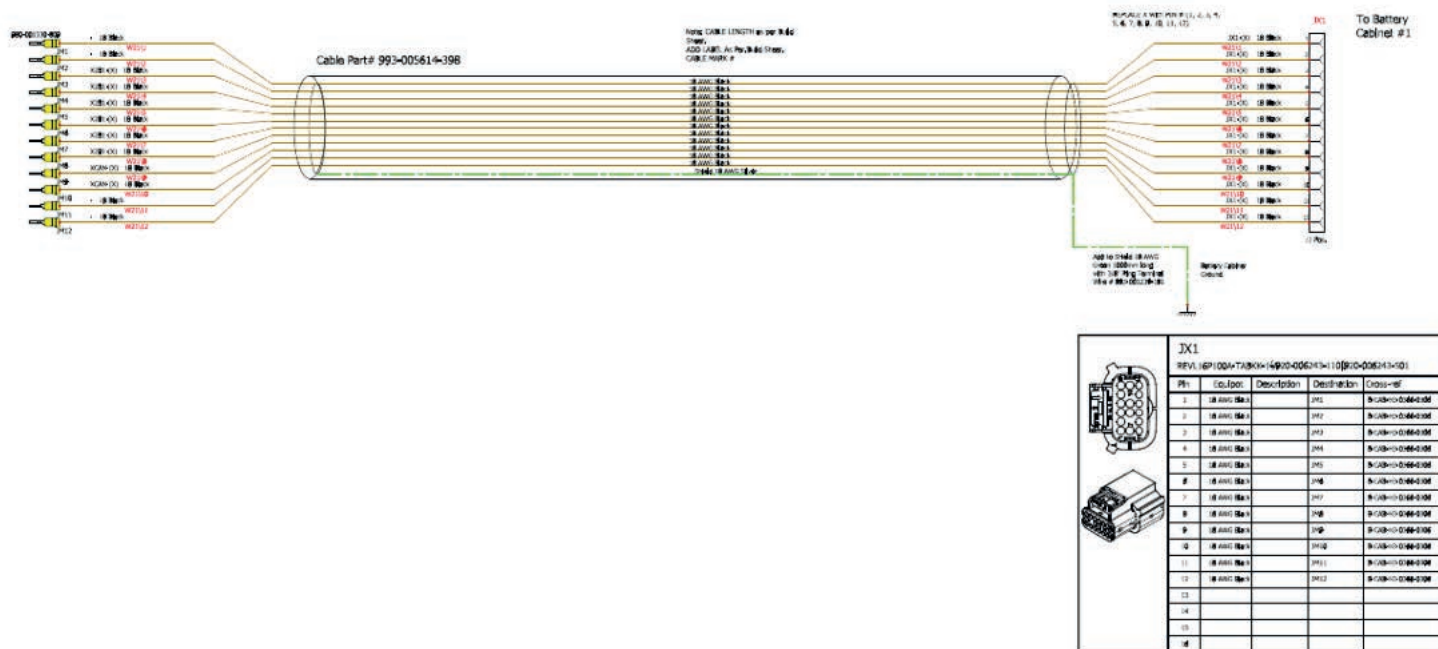
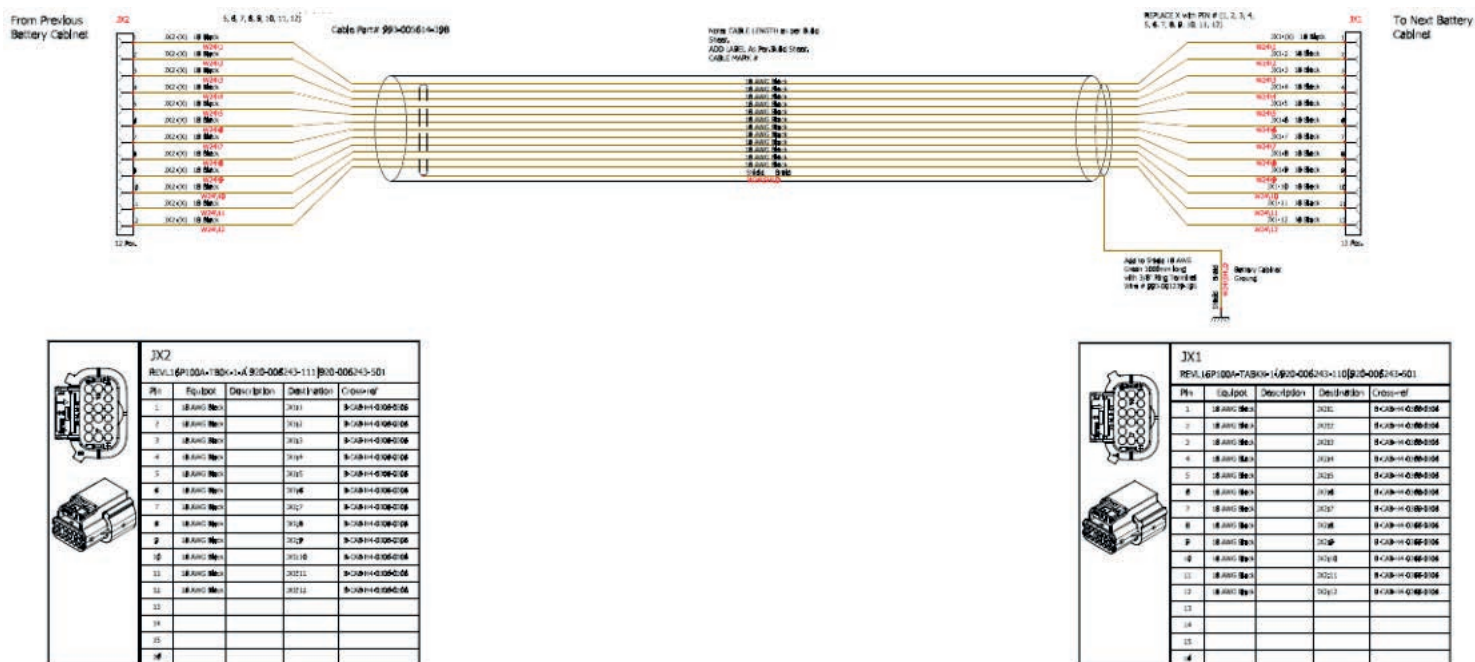
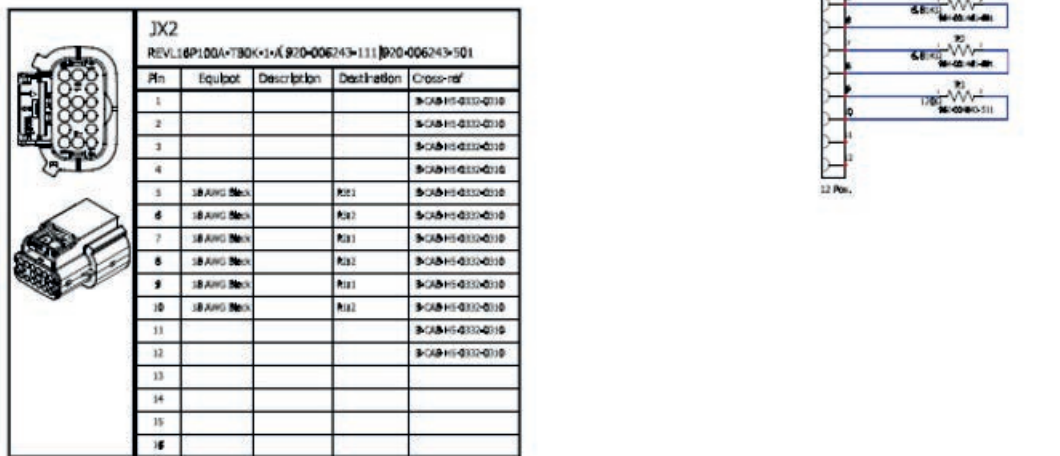
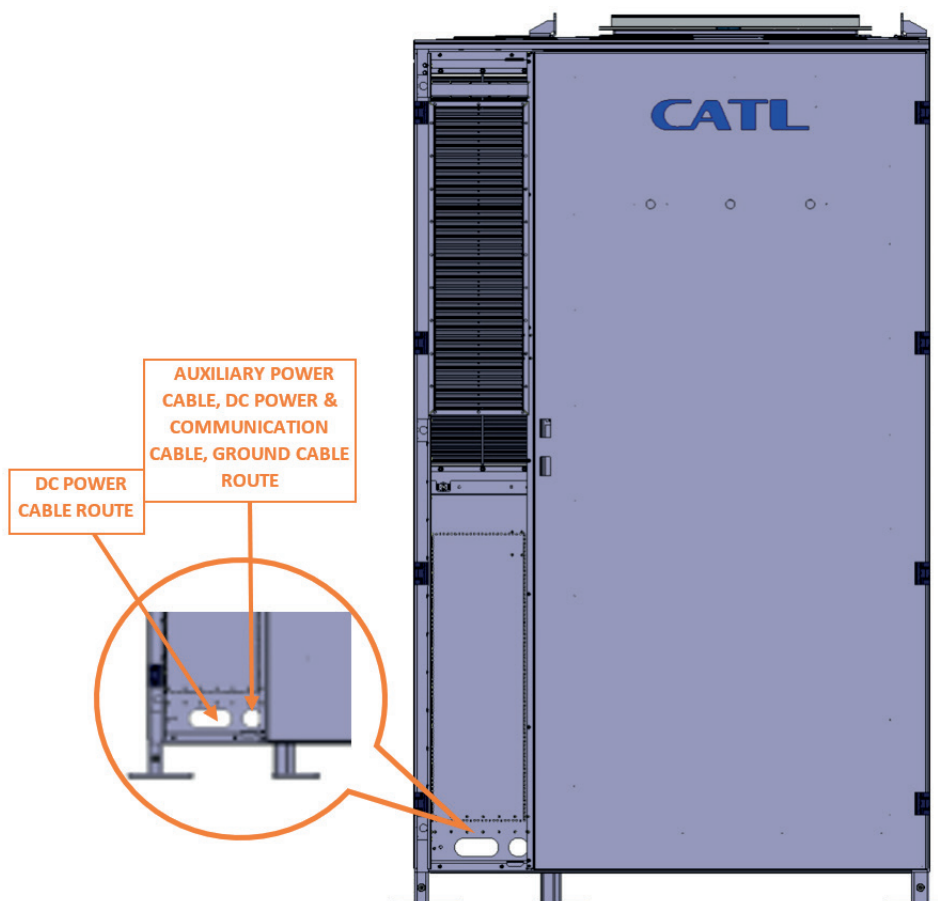

Figure 107. B-Cab XXL 1 to M-Cab XXL DC Power & COM Cable Harness
Figure 108. B-Cab XXL to B-Cab XXL DC Power & COM Cable Harness
Figure 109. B-Cab XXL Last Cabinet Termination
Figure 110. B-Cab XXL Cable Harness Routing
The DC power and communication harness cable set are depicted in Figure 107, Figure 108 and Figure 109, come with connectors Figure 104 and Figure 105 already installed. The cable harness begins at the B-Cab XXL, travels through the C-Trough and the C-Cab XXL, and finally ends terminated in the M-Cab XXL.
- a. The “HES-XXL1BAT1/CAN/FS” cable has no connector on one of the cable harness and a connector as in Figure 107 on the other end. See Figure 110, for a schematic representation.